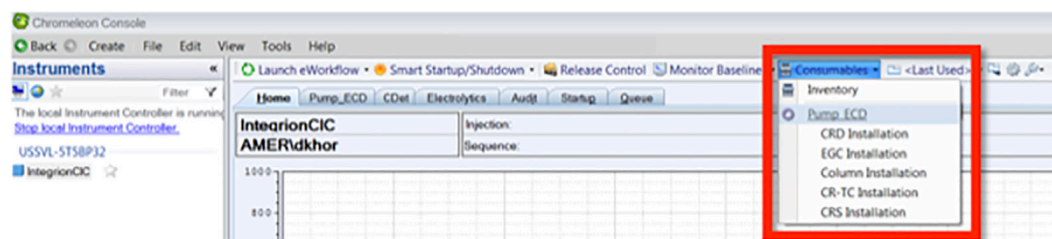

Figure 12. Consumables installation instructions on instrument panel
Install the Thermo Scientific™ Dionex™ EGC 500 KOH Potassium Hydroxide Eluent Generator Cartridge and Dionex CR-ATC 600 Continuously Regenerating Anion Trap Column in the Dionex Integrion HPIC system Reservoir Tray compartment. Condition the devices according to instructions in the Chromeleon Instrument Panel, drop-down menu (Consumables, Install) (Figure 12). This information is also available in the product manuals and the Dionex Integrion HPIC System Operator’s manual.
3. Condition the columns for 30 min according to the instructions from the Consumables, Install Column section in the Chromeleon CDS software (Figure 12).